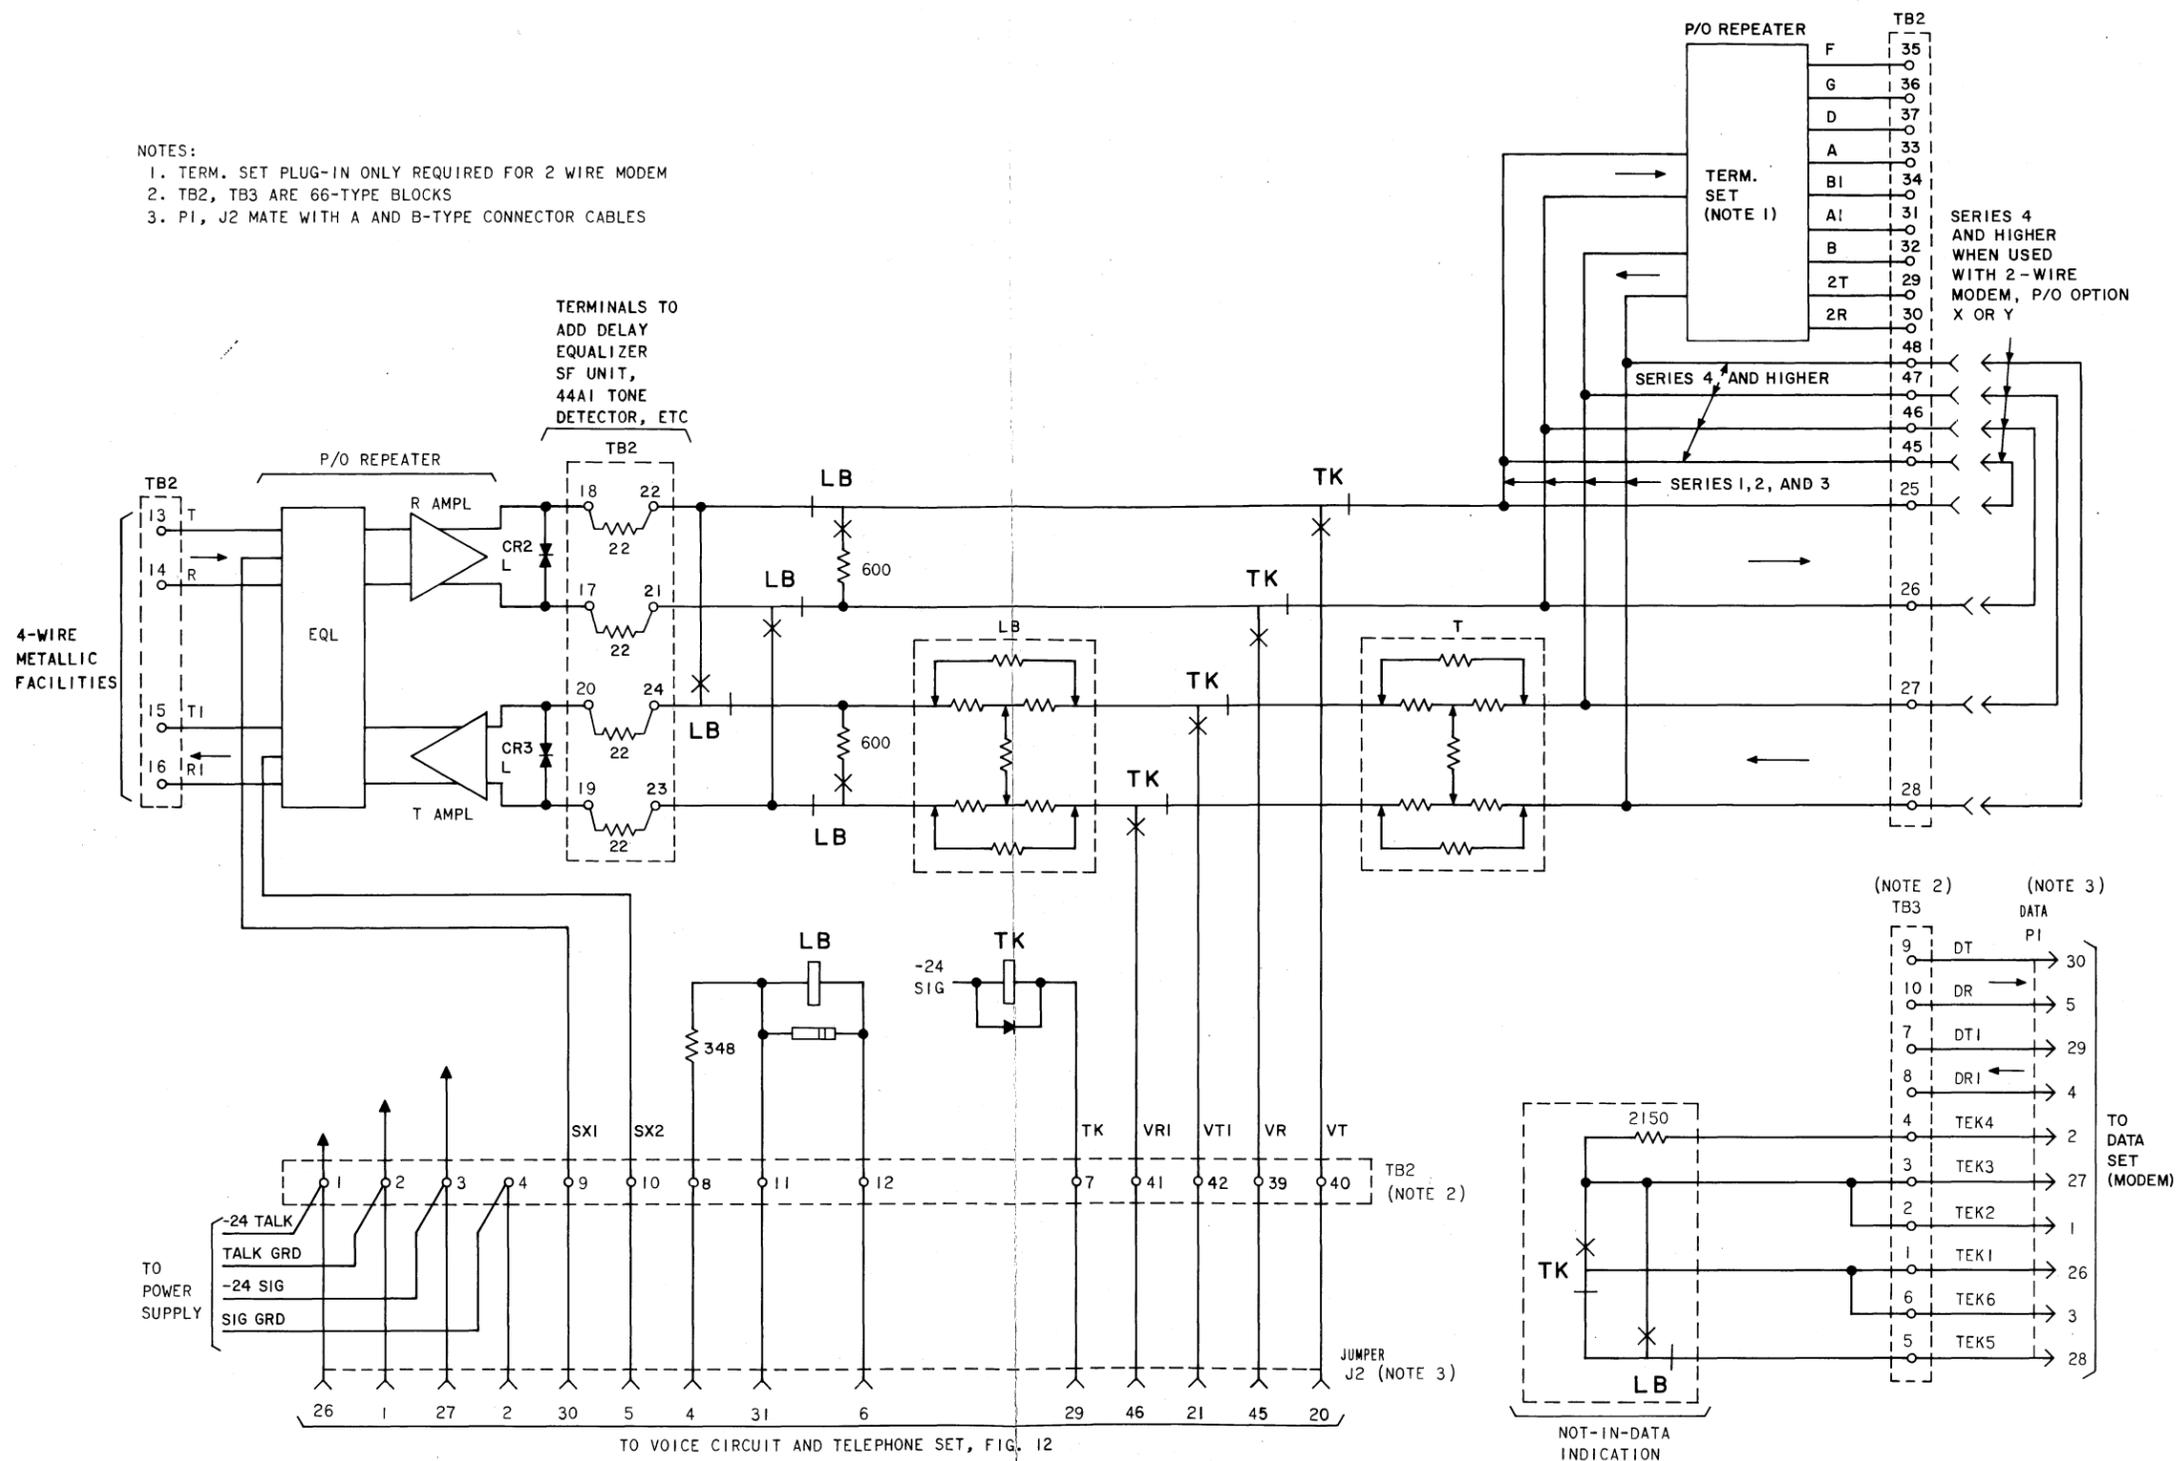

Fig. 7—Functional Arrangement of Data Circuit for DAS 828A-L1
3.03 The circuit of DAS 828A-L1 is shown functionally in Fig. 7. The circuit consists of the following hardware items:
3.10 The loop-back portion of the circuit shown in Fig. 7 is provided to allow the 4W line to be looped back toward the central office for
3.17 The TK relay is wired into the L1 unit as shown in Fig. 7. The TK relay contacts transfer the 4W line from the normal data path to terminals on TB2 and jack J2 (JUMPER) for voice operation. Further description of the voice operation is given in 3.25.
3.18 The not-in-data condition exists whenever the LB or TK relays are operated. The circuit, also shown in Fig. 7, provides an off-normal indication to the modem through the TEK leads of TB3 and plug P1 (DATA). Most Bell System provided (Telco) modems will use this indication, the only current exception being data set 103F-type. This indication can be made available to CP modems, if required.